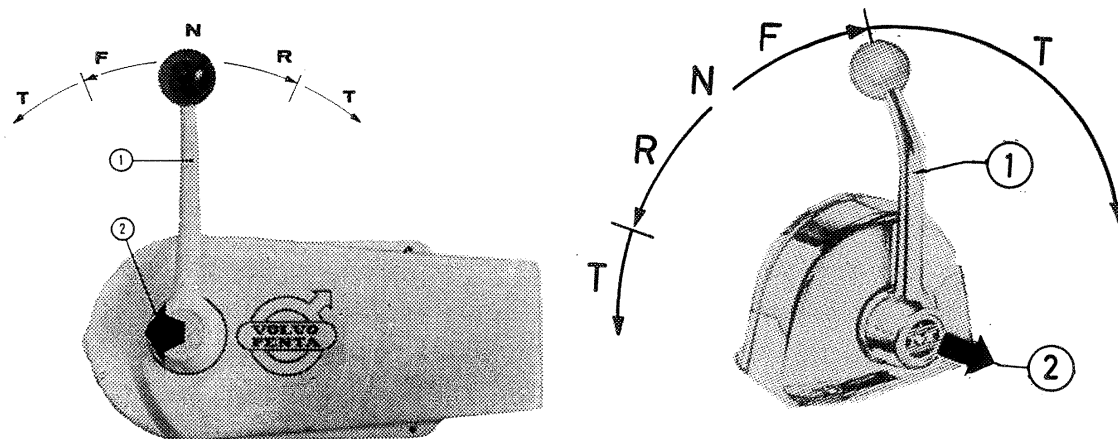

Fig. 5. Single lever controls, make Morse
Controls of make Morse, models MW 335, M335, MT and MT Twin should be used. Engine speed and gear shifting are controlled by the same lever (1, Fig. 5). The controls are also fitted with a device (2) which disengages the shifting mechanism so that the control lever only acts as a throttle. In this way the engine can be run at different speeds in neutral position, for example when warming up.